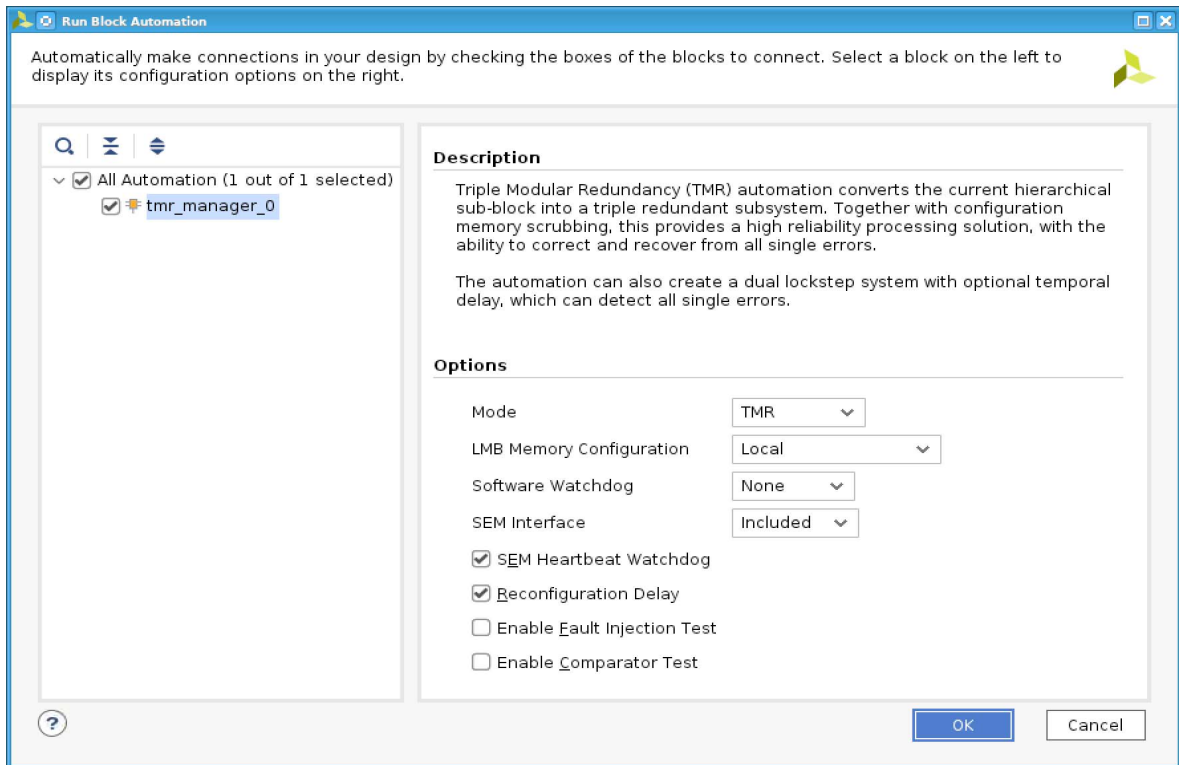

Figure 3-1: TMR Manager Block Automation Dialog
- Run the TMR Manager Block Automation by clicking on the **Run Block Automation** link, and select desired configuration in the dialog shown in Figure 3-1 to perform the triplication: